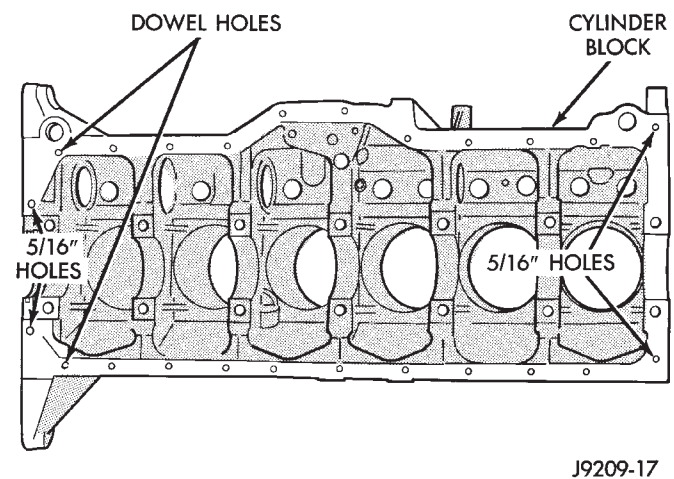

Fig. 49 Position of Dowels in Cylinder Block
- (3) Install two dowels in the timing case cover. Install the other two dowels in the cylinder block (Fig. 49).